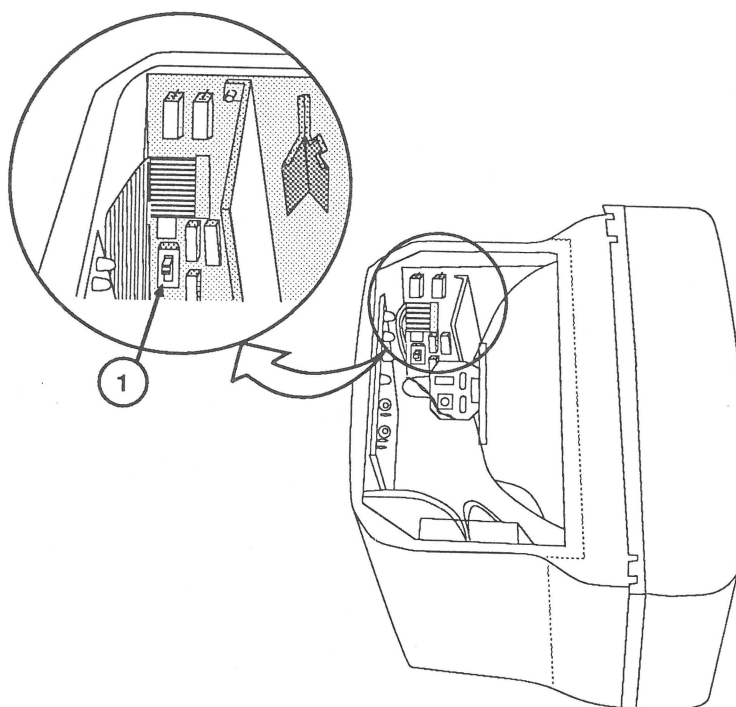

FIGURE 10
WARNING: *The Apple Two-Page Monochrome Monitor operates at extremely high voltages. To prevent electrical shock, use an insulated (nonmetal) tool to set the 3-position switch (Figure 10, #1) on the main board.*
- a) Using an insulated (**nonmetal**) tool, carefully reach inside the monitor chassis and set the 3-position switch (Figure 10, #1) located on the main board to the lowest of the three switch settings. **Avoid touching the heatsink or any other part of the monitor.**
WARNING: *If you do not use an insulated (nonmetal) tool to set the 3-position switch (Figure 10, #1), you must turn the power off before reaching inside the chassis to adjust the switch, and then turn the power back on to view the monitor screen.*